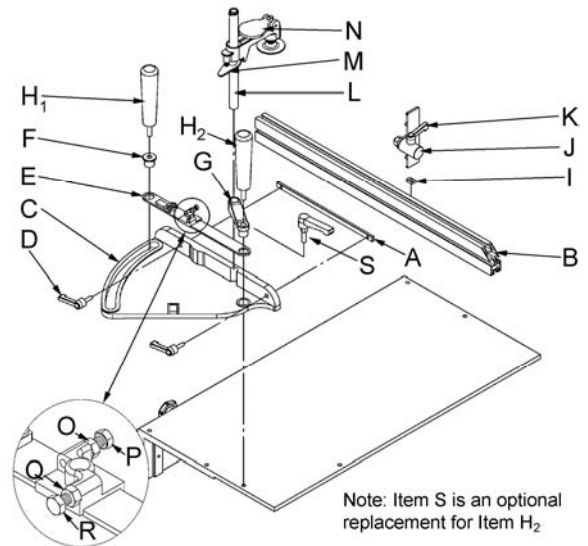

Figure 13
1. Slide the miter gauge fence (B, Fig. 13) into the bar (A, Fig. 13) and attach to the miter gauge body (C, Fig. 13) with two handles (D, Fig. 13).
Referring to Figure 13: